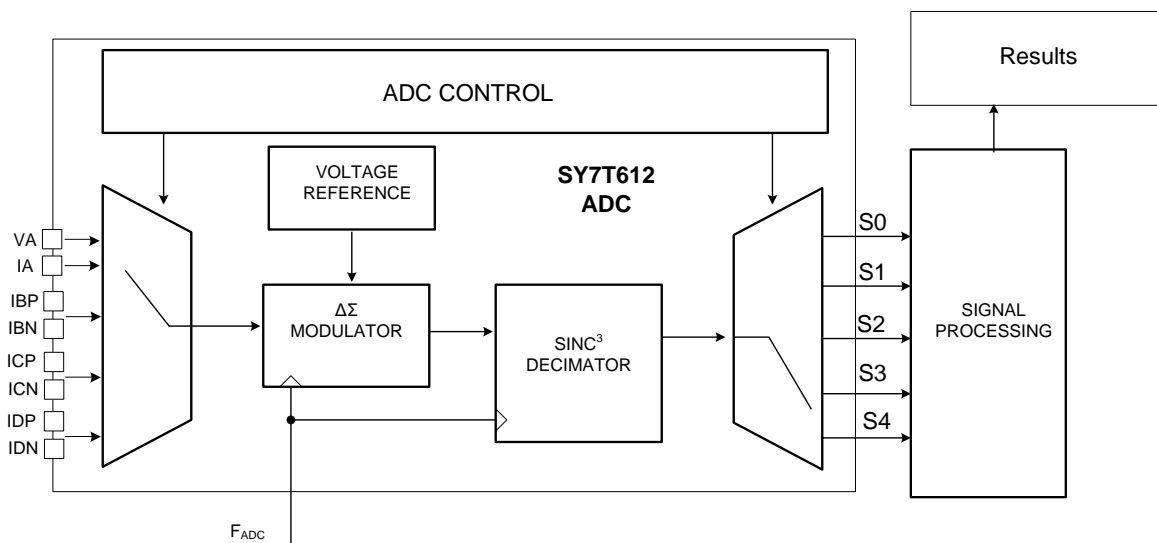

Figure 16. SY7T612 Analog Front-End
The device samples five external sensors with an effective sample rate of 3,232 samples/second (“F_{sample}”) for each multiplexer slot. One analog input pin is defined as the common voltage input for all four phases, one input is a single ended current input (IA), and six analog input pins are defined as three pairs of differential current inputs (IB, IC, ID), as shown in Figure 16.